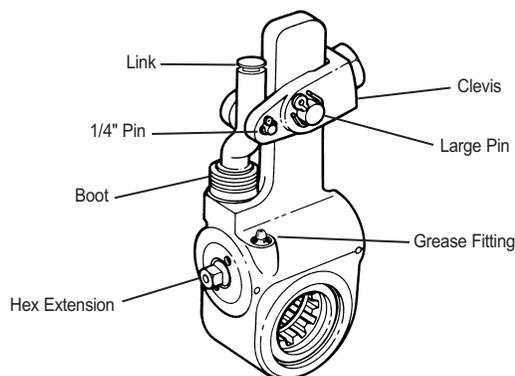

Figure 6 – Location of Clevis Pins, Hex Extension & Boot
4. Never operate the vehicle with small 1/4" pin missing from the clevis. The Gunite automatic slack adjuster will not maintain proper brake adjustment with either pin missing. (see Figure 6)